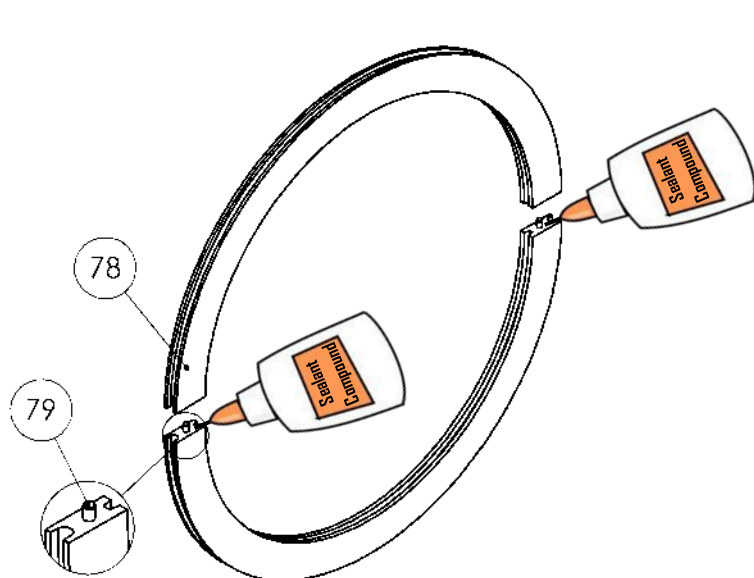
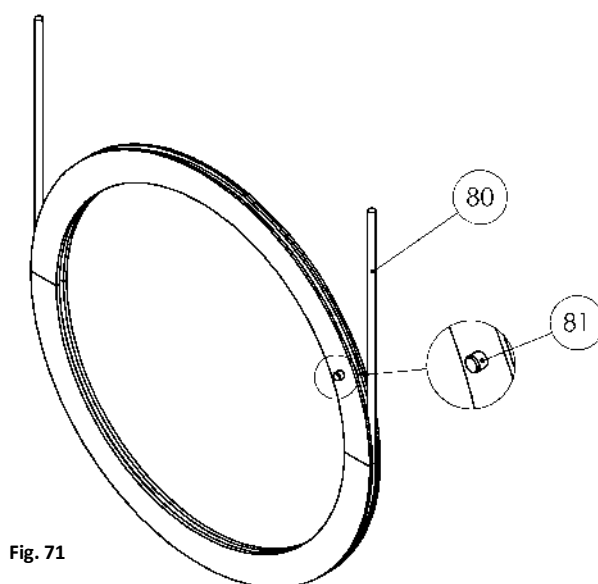

Fig. 70
Fig. 71
- Prepare the seal to installation by coating the surface of the split line with a thin film of non-hardening sealant compound (Fig.70).
- Joint the halves of the labyrinth seal (78) by the positioning pin (79), present in some seal bore diameters, placed at the split line.
- Insert the wire spring (80) in the sealing groove and lock the spring key (81) (Fig.71).